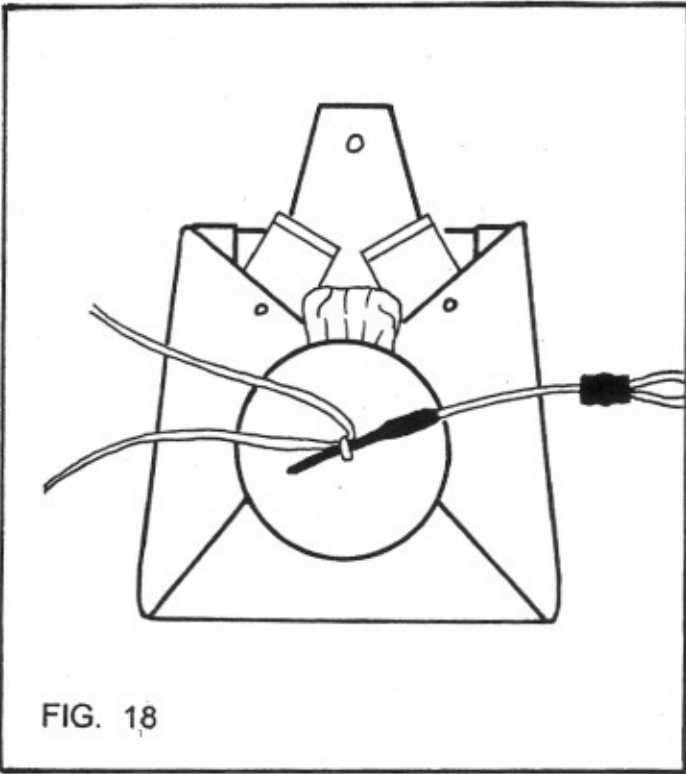

FIG. 18
FIG. 18 shows the fabric at the top being rolled and compressed, and partially tucked under the upper edge of the top plate. The remainder of the fabric will be covered by the reserve top flap.
17) Fold the curved edge up to the attachment of the handle as shown in FIG. 18.